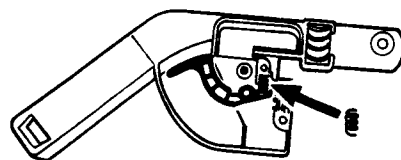

FIG 45
2. Fit throttle interlock and compression spring (Fig 45).